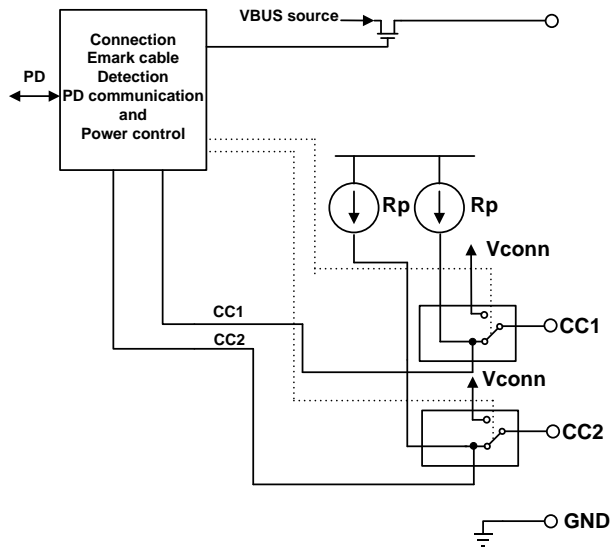

Figure 4. Source only Functional Model for CC1 and CC2
When Type-C state is presented as source port only (see Figure 4), the port is able to supply power over VBUS and must assert a pull-up resistor (R_p) resistor on the configuration channel (CC) pins.